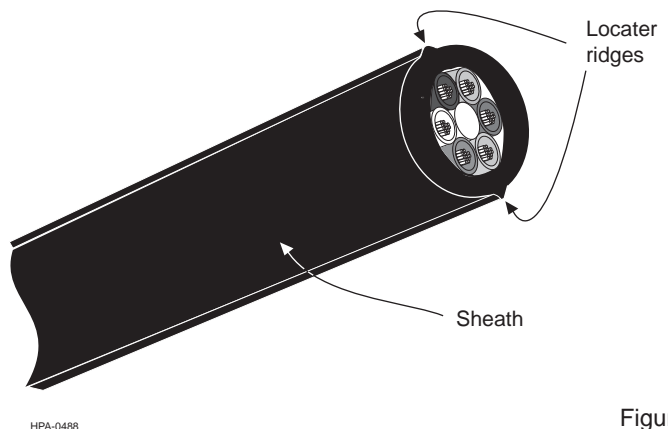

Figure 3
4.3 At the end of the cable, locate the locator ridges which indicate the cable sheath's FastAccess™ Technology features. These features appear as small longitudinal ridges on the cable sheath and are located 180° from each other (Figure 3).